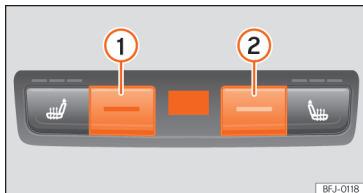

Fig. 186 In the centre console, rear section: controls for the rear seats.
- Press buttons ① and ② »» Fig. 186 to adjust the temperature.